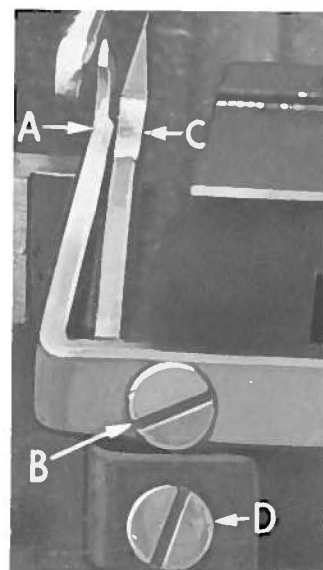

Fig. 5
Set rear needle guard (A, Fig. 5) as high as possible without interfering with either lower looper or movement of lower knife holder, but still in position to deflect needle forward .002 to .004 inch. Screw (B) is used to set the rear needle guard. Make sure there is no interference between the rear needle guard and lower looper.
Assemble front needle guard (C, Fig. 5). When lower looper is springing needle off back guard, set the front needle guard as close as possible to needles without touching. Screw (D) is used to adjust and set front needle guard. After this setting, make sure there is no interference between the needle guards and differential feed dog.